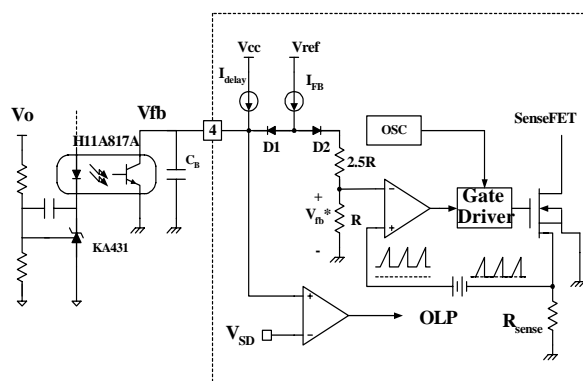

Figure 5. Pulse Width Modulation (PWM) Circuit
2. Feedback Control: FSDM0465RB employs current mode control, as shown in Figure 5. An opto-coupler (such as the H11A817A) and shunt regulator (such as the KA431) are typically used to implement the feedback network. Comparing the feedback voltage with the voltage across the R_{sense} resistor plus an offset voltage makes it possible to control the switching duty cycle. When the reference pin voltage of the KA431 exceeds the internal reference voltage of 2.5V, the H11A817A LED current increases, thus decreasing the feedback voltage and reducing the duty cycle. This event typically happens when the input voltage is increased or the output load is decreased.
2.1 Pulse-by-Pulse Current Limit: Because current mode control is employed, the peak current through the SenseFET is limited by the inverting input of the PWM comparator (V_{fb}^*) as shown in Figure 5. Assuming that the 0.9mA current source flows only through the internal resistor ($2.5R + R = 2.8\text{ k}\Omega$), the cathode voltage of diode D2 is about 2.5V. Since D1 is blocked when the feedback voltage (V_{fb}) exceeds 2.5V, the maximum voltage of the cathode of D2 is clamped at this voltage, thus clamping V_{fb}^* . Therefore, the peak value of the current through the SenseFET is limited.